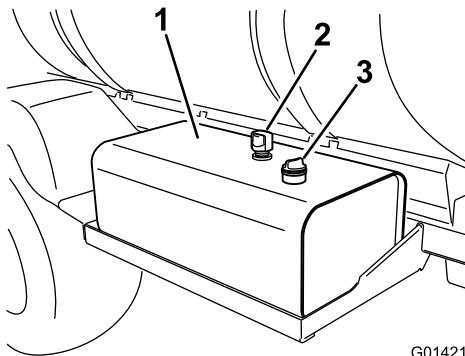

Figure 139
2. Clean the area around the hydraulic-fluid-tank dipstick cap and remove it (Figure 139).